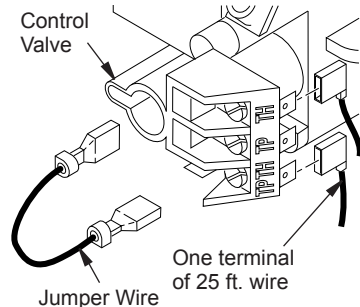

Figure 19 - Connecting Wire Terminals
1. Disconnect jumper wire from control valve (see Figure 19).
2. Connect one terminal of 25 ft. wire to "TPTH" terminal on control valve (see Figure 19).
3. Connect remaining wire terminal to the "TH" terminal on the control valve. Make sure that wire terminals are in the positions on your unit as pictured in Figure 19.
1. Connect one terminal of 25 ft. wire to "TPTH" terminal on control valve (see Figure 19, page 17).
2. Connect remaining wire terminal to the "TH" terminal on the control valve. Make sure that wire terminals are in the positions on your unit as pictured in Figure 19, page 17. If wires are not "crossed" the thermostat will not work.